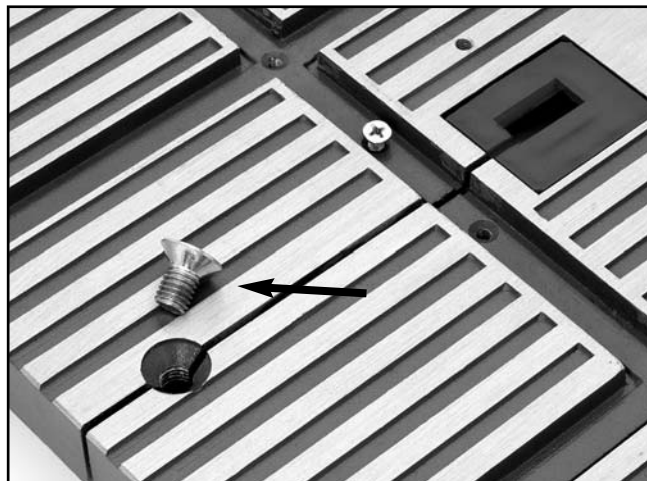

Figure 8. Phillips screw removed from table.
3. Loosen and remove the phillips screw in the blade slot of the table (**Figure 8**).